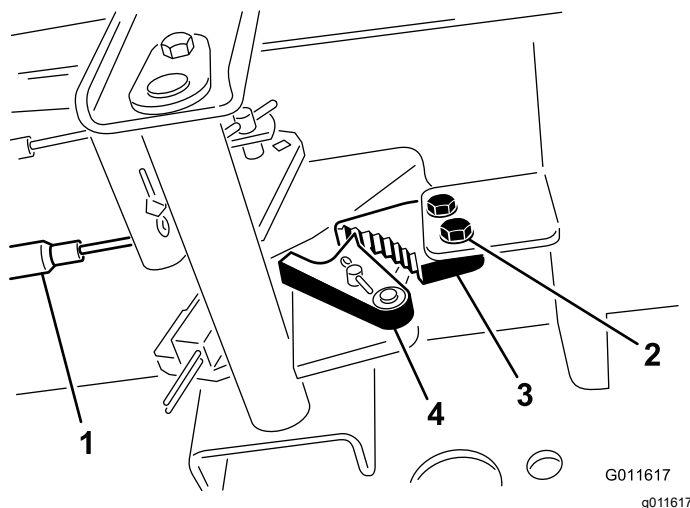

Figure 84
1. Loosen the 2 screws securing the parking-brake pawl to the frame (Figure 84).
2. Press the parking brake pedal forward until the brake detent completely engages on the brake pawl (Figure 84).